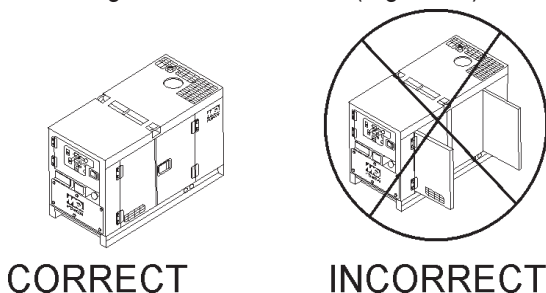

Figure 40. Engine Enclosure Doors
4. Close all engine enclosure doors (Figure 40).